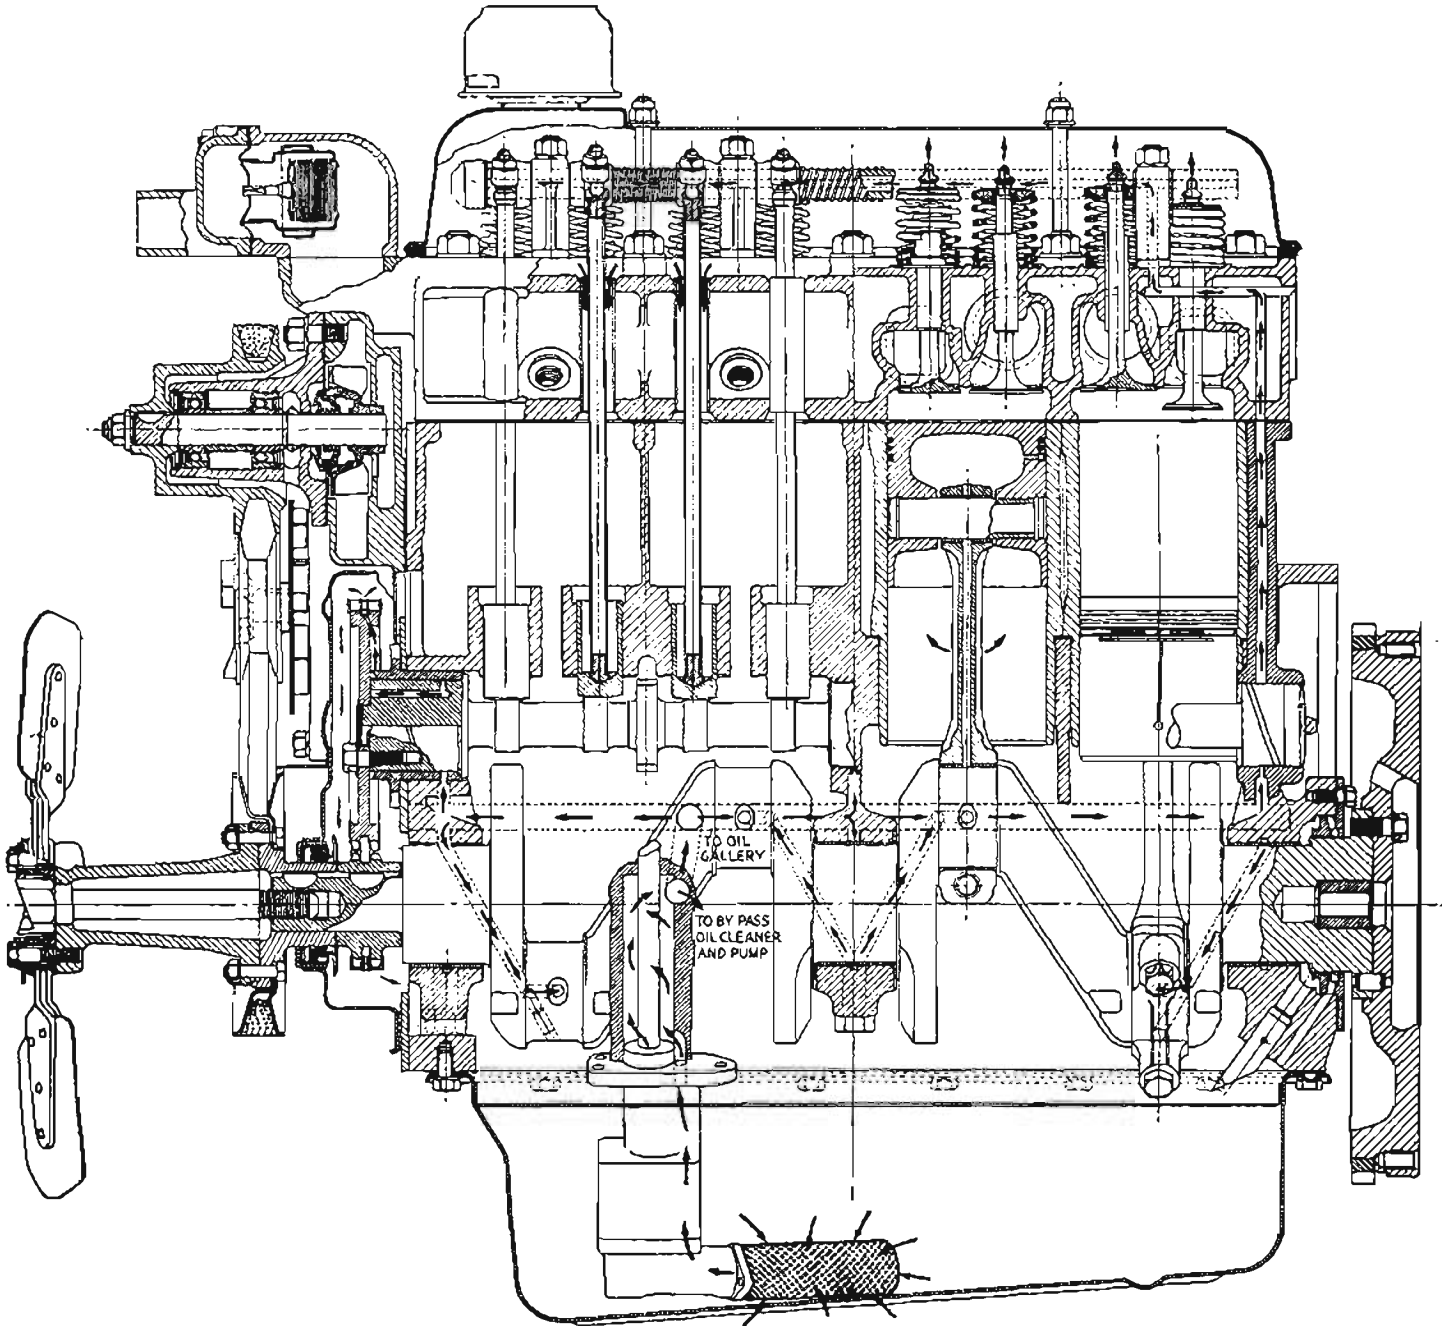

Fig. 12
2. ENGINE LUBRICATION (Figs. 12 and 13)